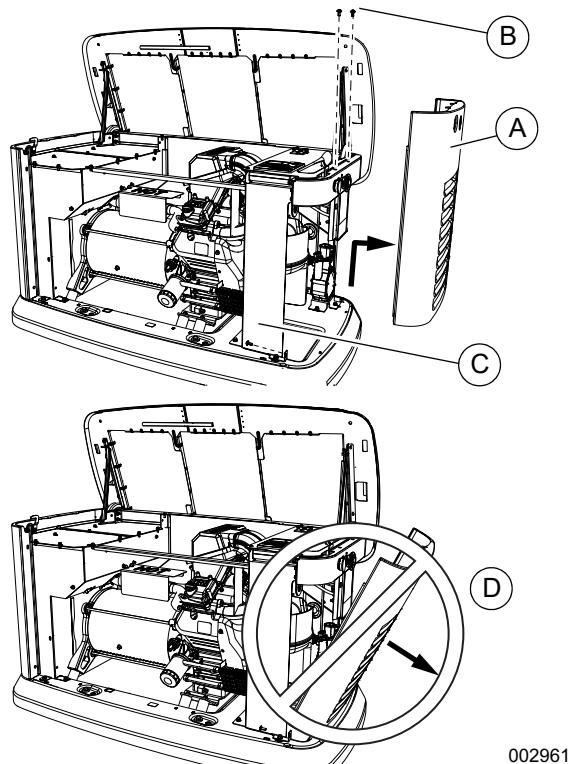

Figure 3-3. Intake Side Panel Removal
See **Figure 3-3**. Intake side panel (A) must be removed to access battery compartment, fuel regulator, and sediment trap.
2. Use a hex key to remove two mounting screws (B) and L-bracket screw (C).